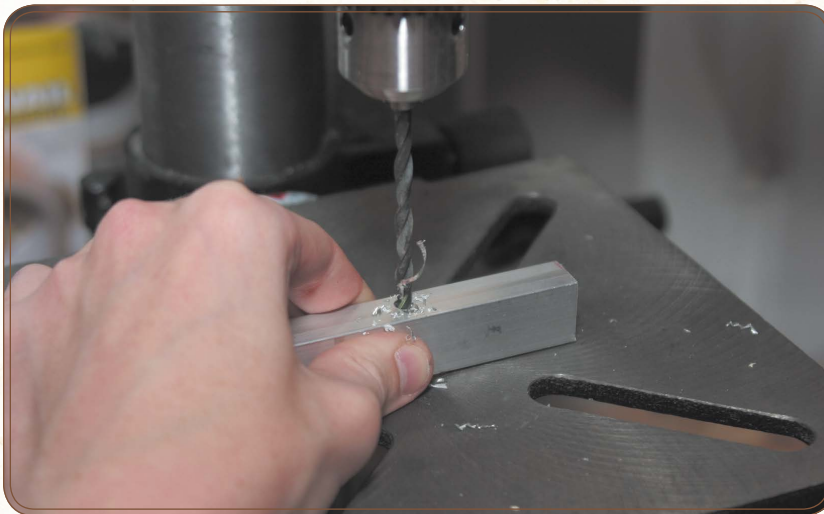

Figure 2.3: Hole in the telegraph's tapper
3. Next, drill a centered $\frac{1}{8}$ -inch hole in the side of the lever/tapper, 2 inches from the same end of the dowel as the knob screw hole, as shown in Figure 2.3.